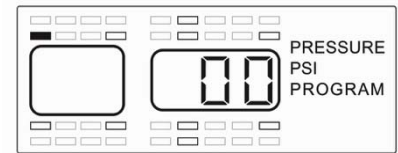

Figure 2-9
- 1) Using the same controls as sensor serial number programming, use the arrow buttons navigate to the desired tire position. Press and hold the “S” button for 3 seconds. This will cause the first dash or number to blink (See **Figure 2-9**). Use the “Up” and “Down” arrows to adjust the numeric value and the “Left” and “Right” arrows to change the digit being adjusted. Once the Baseline Pressure has been set, press and hold the “S” button for 3 Seconds until the number flashes twice and audible beeps are heard. (Audible alarm is not available on the “black box” products)